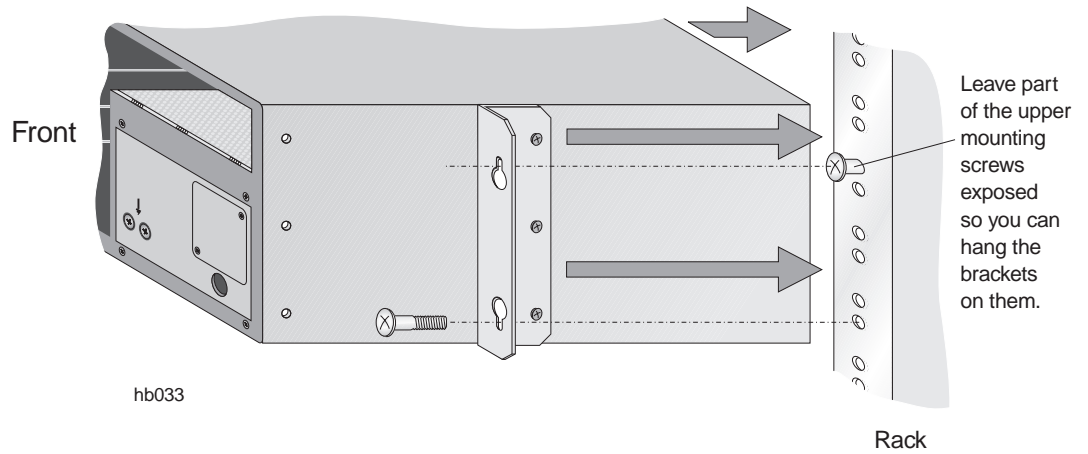

Figure 3-5 Installing the IDU chassis in a rack
2. Screw the two upper mounting screws into the rack (one on each side), at the desired installation height. Refer to figure 3-5.